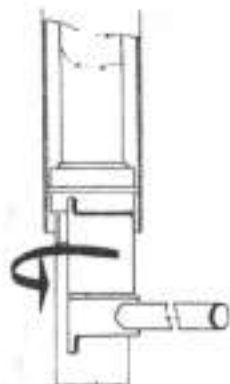

Fig. 37 - Tighting of nut with seal ring
- a) unscrew the nut c/w seal by means of fixture No. 18 (fig. 37)